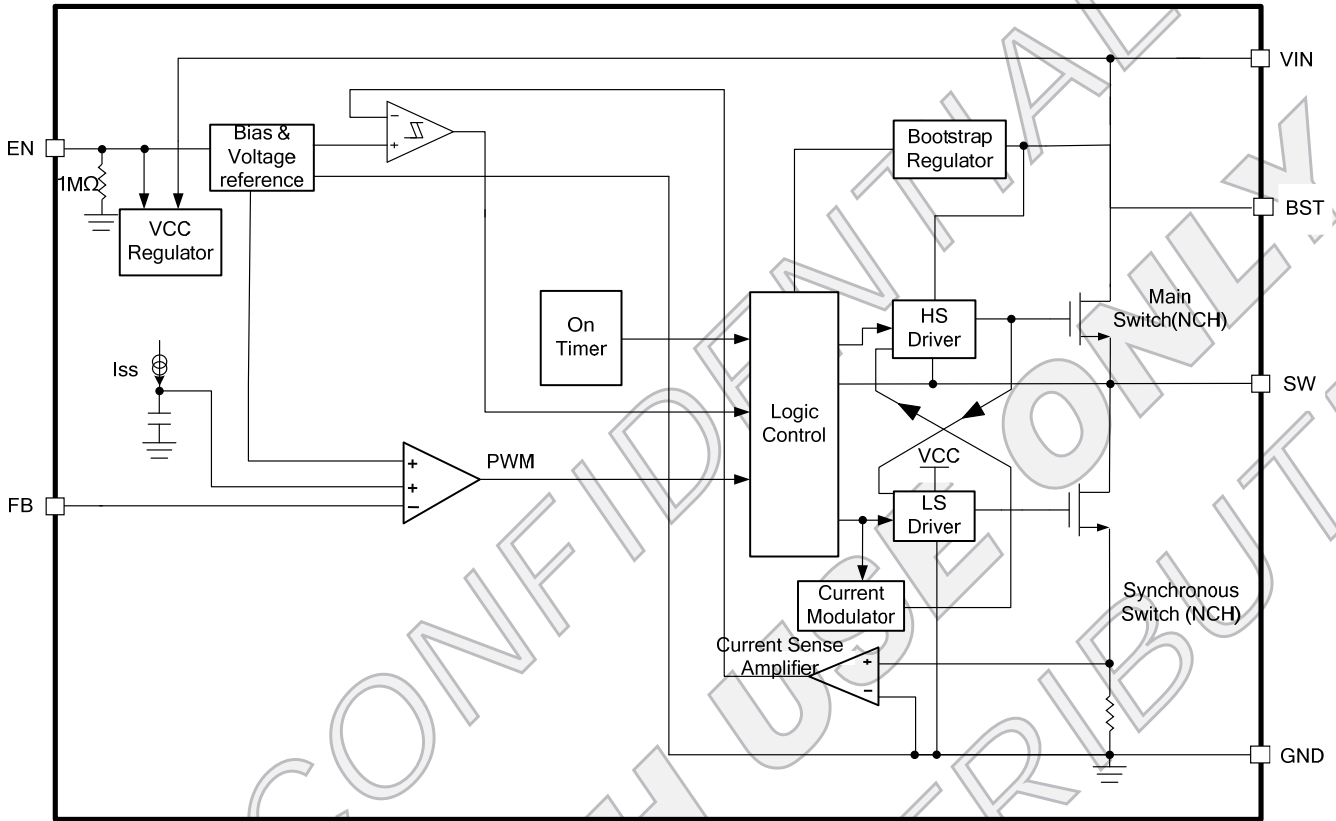

Figure 1: Functional Block Diagram
MP1654 has valley current limit control. During LS-FET ON state, the inductor current is monitored. When the sensed inductor current hits the valley current limit, the LS limit comparator (shown in Figure 1) turns over, the device enters over-current protection mode, HS-FET will wait until valley current limit disappear to turn on again. Meanwhile, the output voltage drops until VFB is below the under-voltage (UV) threshold—typically 75% below the reference. Once UV is triggered, the MP1654 enters hiccup mode to periodically restart the part.